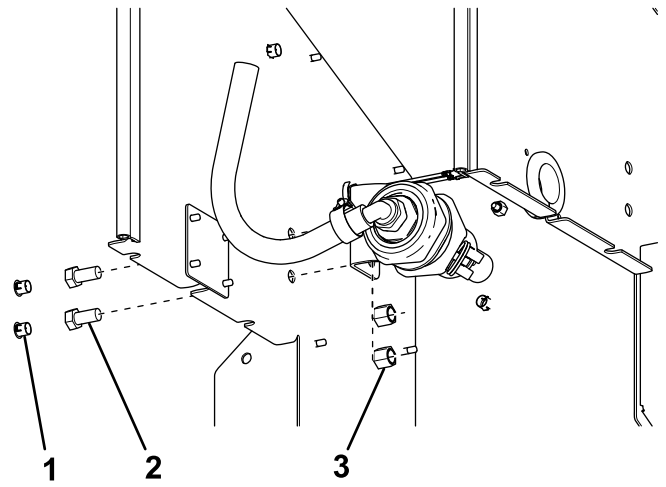

Figure 12
- For the Forge pintle chain spreaders, remove the 2 plugs on the rear cover and mount the bracket through them as shown in Figure 12.